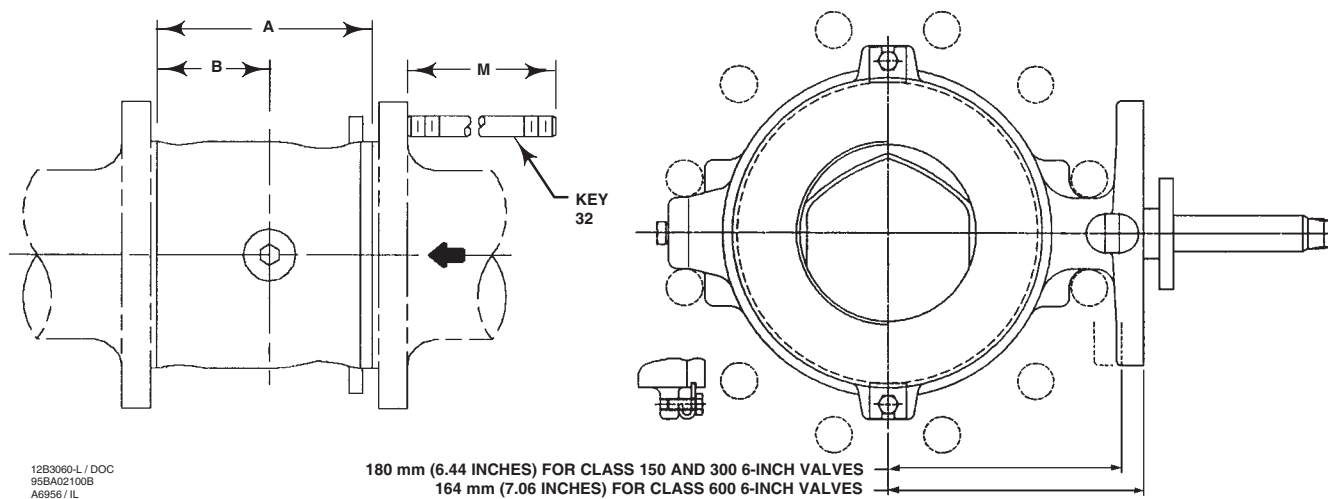

Figure 4. Design V200 Dimensions and Required Clearances for Installation
Stud length dimensions are shown in figure 4 for the seal protector ring end of the valve. For Design V200, Class 600, the dimension from the center line of the valve bore to the mounting flange face is larger than a Class 150 or 300 valve.
1. Install the Design V200 valve using long studs (key 32, figure 4) to connect the two pipeline flanges. Refer to figure 4 for the size of studs required. Lubricate the studs with anti-seize lubricant.